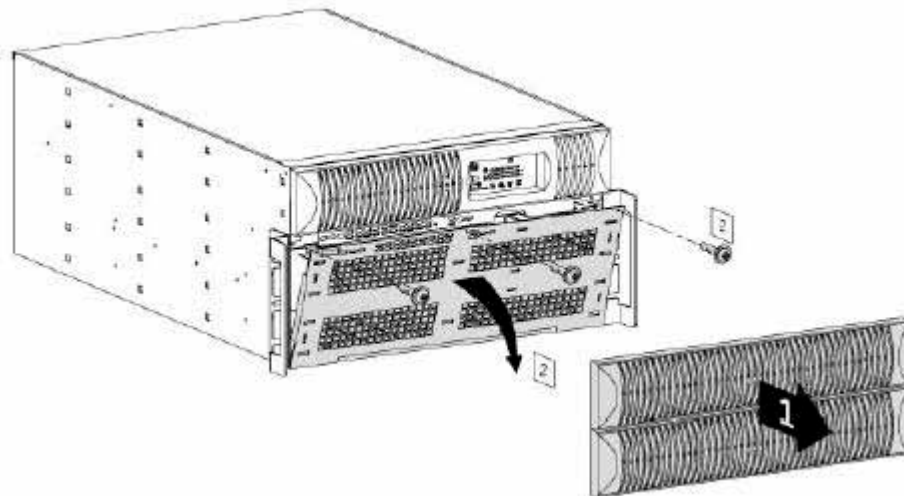

FIG 71 – FRONT COVER REMOVAL
2. Remove the battery grille by loosening the three mounting screws (FIG 71).